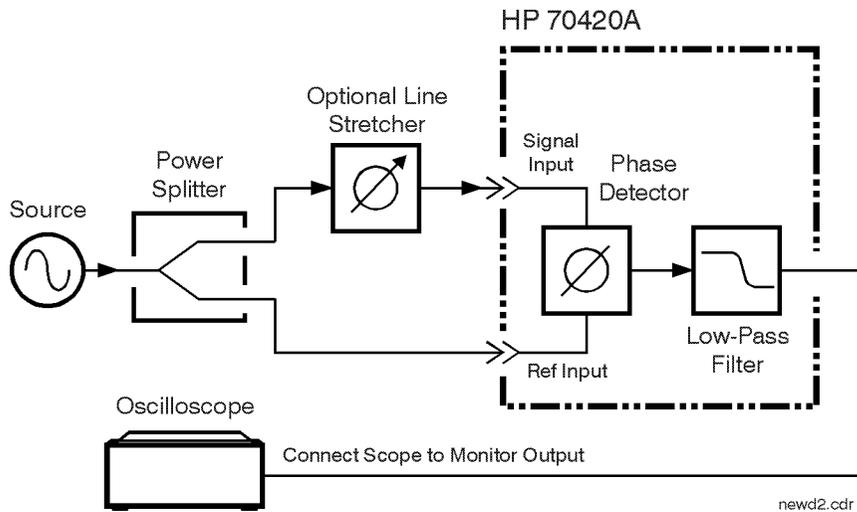

Figure 8-9 *Connection to Optional Oscilloscope for Determining Voltage Peaks*
1. Connect circuit as per Figure 8-9 on page 8-14, and tighten all connections.